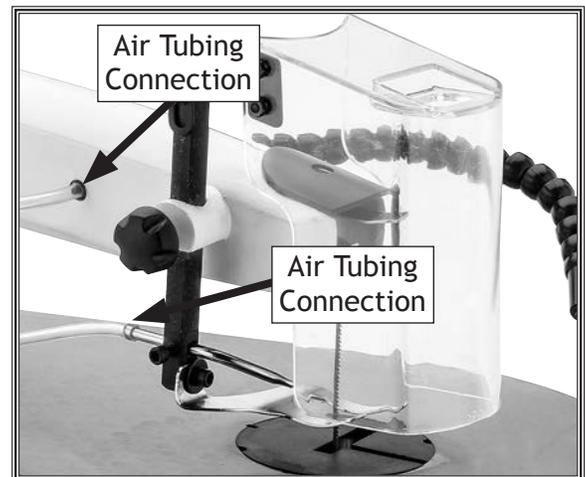

Figure 11. Air tubing connections.
4. Connect air tubing to backside of air nozzle, as shown in **Figure 11**.